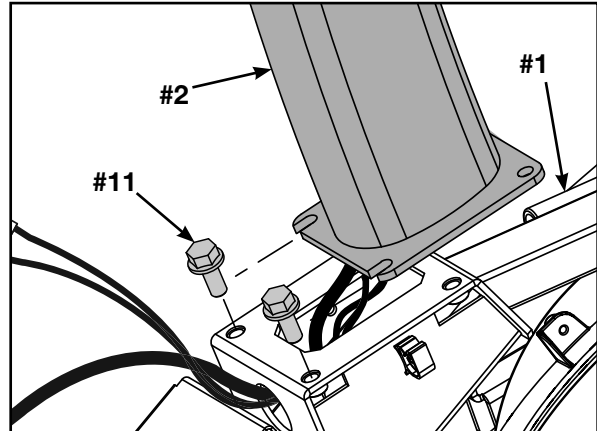

Figure 3
- B. Hand thread two mounting screws 5/16-18 x .75" (#11) into the base assembly. See Figure 3.
- D. Place the console assembly (#2) in the correct position on the base assembly (#1) by sliding into position onto the two mounting screws 5/16-18 x .75" (#11). See Figure 3.